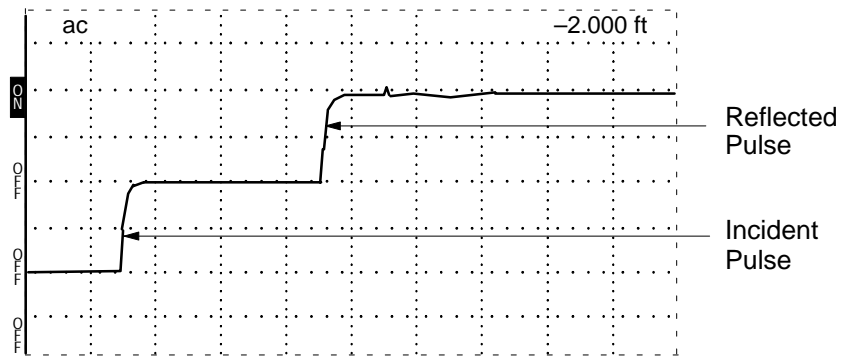

Figure 2-5: 3-foot Cable with Cursor at Far Left
3. The first (left) step is the incident pulse, as sent from the pulse generator (see Figure 2-5). The second step is the reflected pulse, as it bounces back from the end of the cable. The reflected pulse and the time between pulses provides the information needed for calculating the distance between faults or the end of the cable.